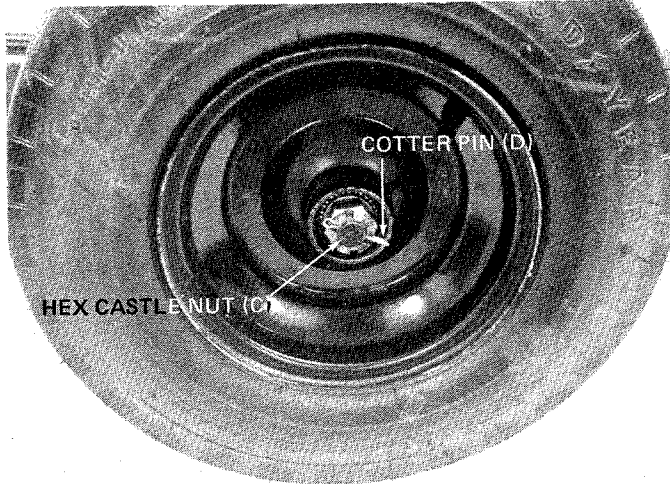

FIGURE 3
3. Thread hex castle nut (C) on axle. Tighten castle nut until snug, back off approximately 1/3 turn or until one of the slots on the castle nut lines up with hole in axle. Secure castle nut to axle with cotter pin (D). See figure 3.